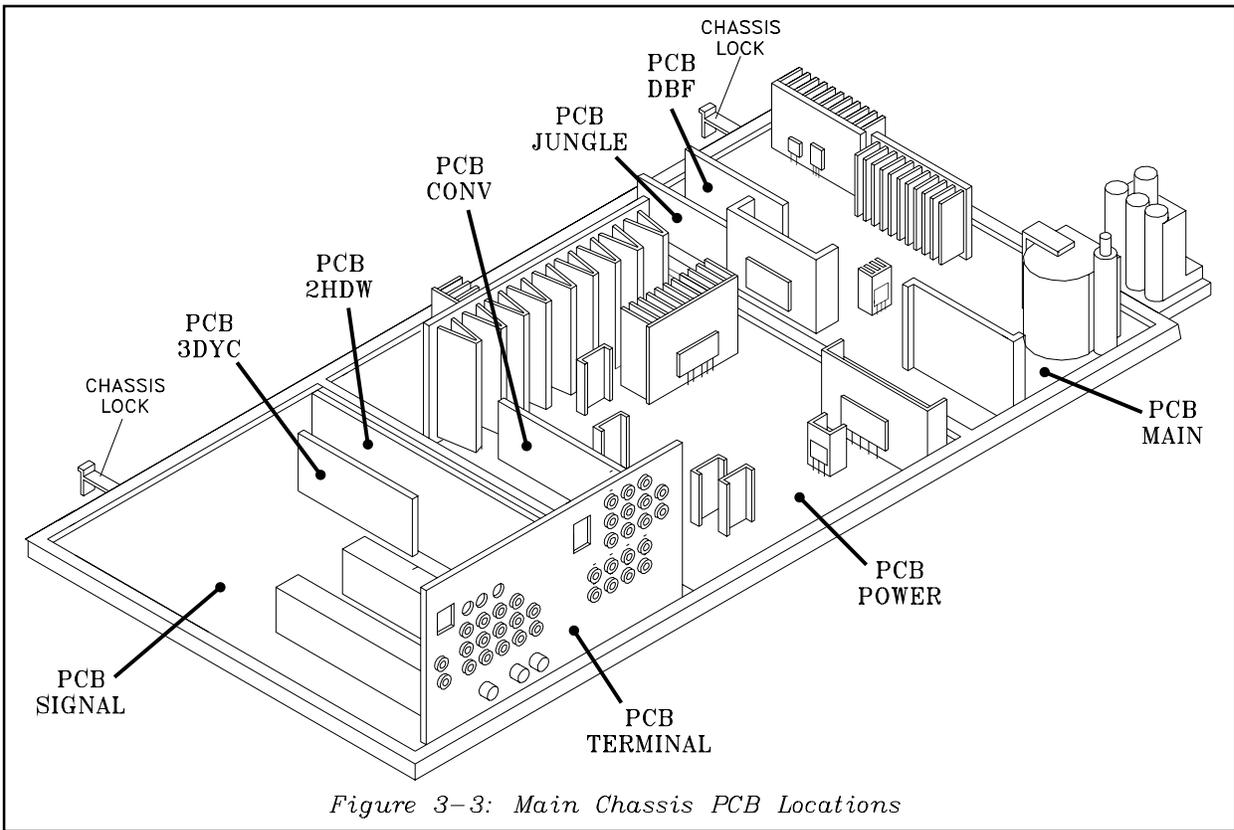

Figure 3-3: Main Chassis PCB Locations
- 3) Release the chassis locks on the front of the chassis, shown in *Figure 3-3*.
*Figure 3-3* shows the location of PCBs that comprise the main chassis. The following PCBs are plug in and are considered replaceable components: